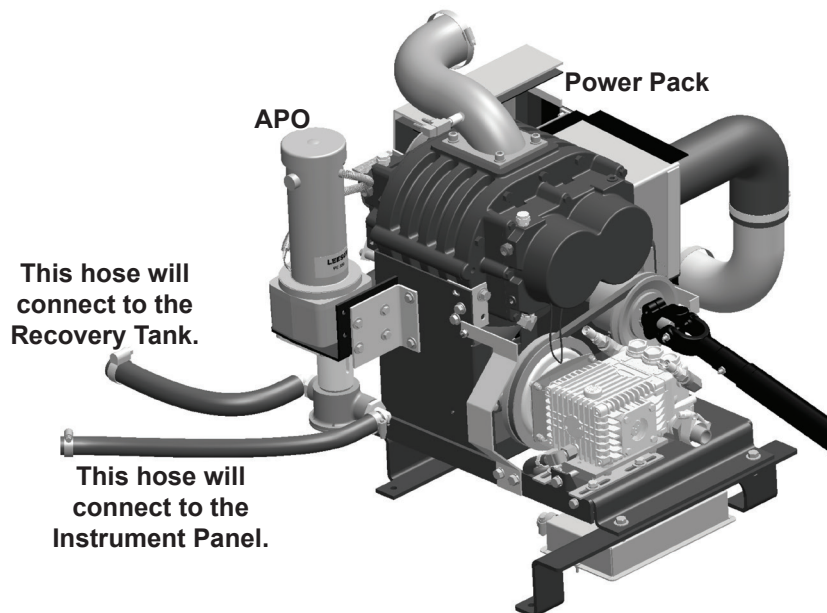

Figure 30. Install APO onto Power Pack
1. Secure the APO to the Power Pack Assembly using two 1/4-20UNC x 0.75" hex head bolts and two 1/4" washers (see Figure 30).
2. Locate the two hoses for the APO (see Figure 30).